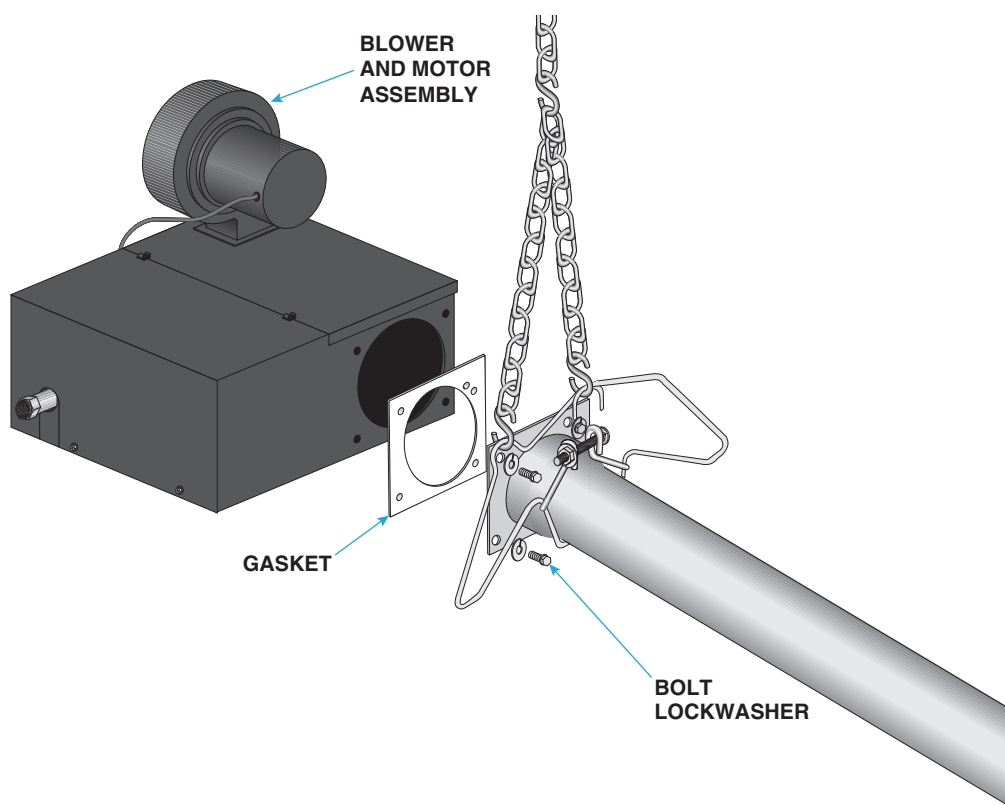

Figure 17. Burner Cabinet and Tube Assembly Connection (Model VZ Shown)
4. For models VZ and VZT, install blower and motor assembly on top of burner cabinet as shown in Figure 17:
5. Suspend burner cabinet in accordance with steps 1 and 2 and connect to tube assembly using gasket, bolts, and lockwashers as shown in Figure 17. Torque bolts to 120 inch-pounds. For model VZH, connect additional S-hook and suspension hardware to suspension bracket on burner cabinet.